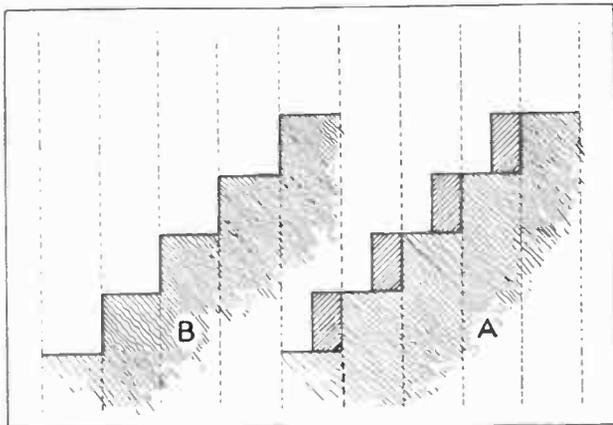

Fig. 1.—The diagram to which Mr. Wright makes reference in considering the query of discs with diamond shaped holes raised by Mr. Carmichael.
Suppose now that discs were employed at the transmitting and receiving ends having two spirals of holes, one spiral in each half of the disc. The holes in each spiral being arranged slightly to *overlap* in the case of the *receiving* disc, but to leave a slight space between adjacent tracks in the transmitting disc, and in *both* discs one spiral has its holes nearer respectively to the centre of the disc than the corresponding hole in the other semicircle by an amount equal to half the width of a hole. The result would be an increase in diagonal gradation, as shown in Fig. 1 (A), compared with the gradation obtained by an ordinary single spiral disc, shown in Fig. 1 (B).